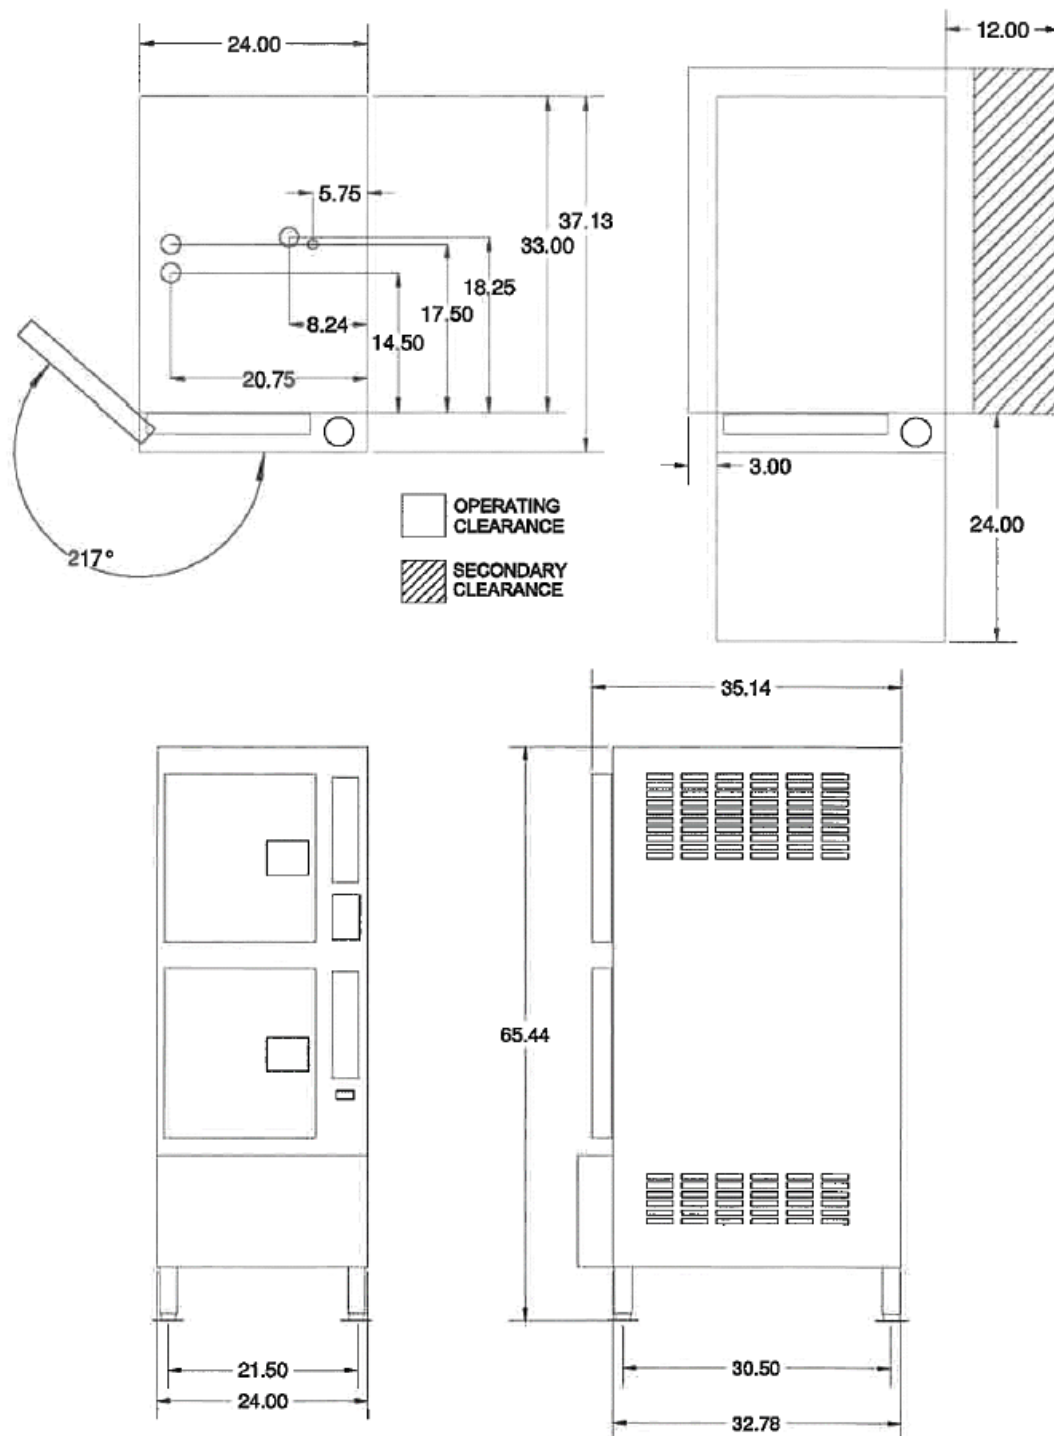

Figure 2-1
- Figures 2-1 and 2-2 illustrate the major external features of 24CDP10s.
6. The location must include space for Operating and Service/Secondary Clearances and the Exhaust Hood. See Figure 2-1.